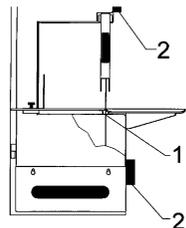

Fig.7.8.1
7.8 - Cleaning of blade-guide bosses (Fig. 7.8.1)